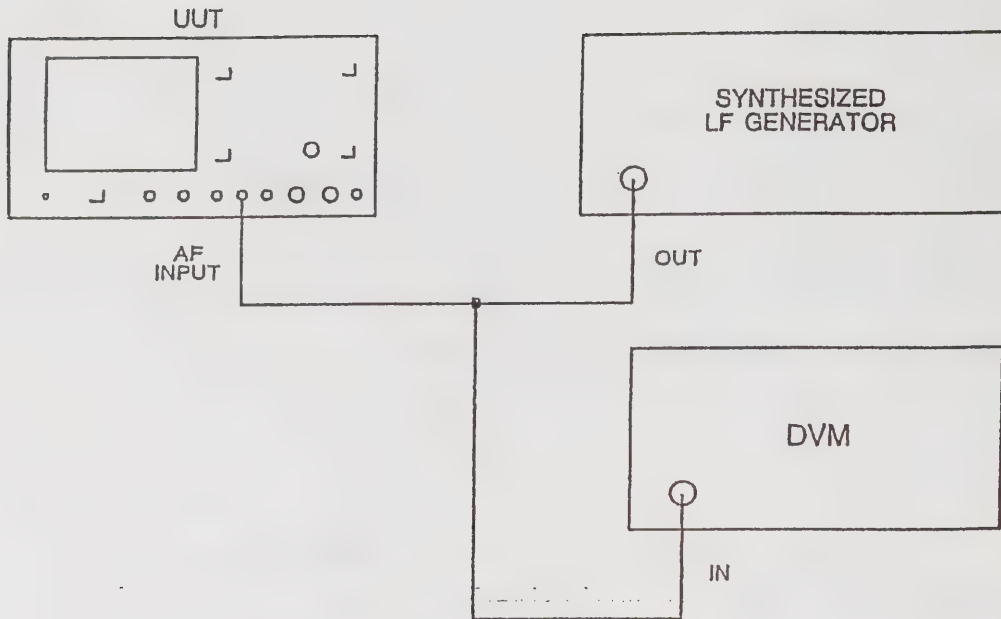

Fig. 3-8 Test equipment connections for adjusting R209 on AB511
- (1) Connect the equipment as shown in Fig. 3-8.
- (2) Set the synthesized LF generator to give a 1 kHz sinewave and adjust the level for an indication of 0.707 V RMS on the DVM.
- (3) Adjust R209 for a 2 V pk-pk (4 divisions) indication on the UUT oscilloscope.